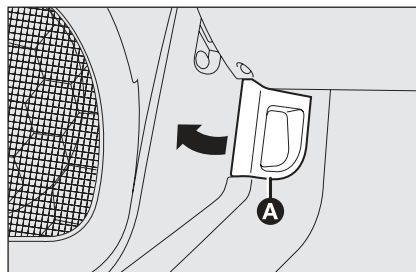

fig. 122
- pull lever **A**-fig. 122 in the direction of the arrow;